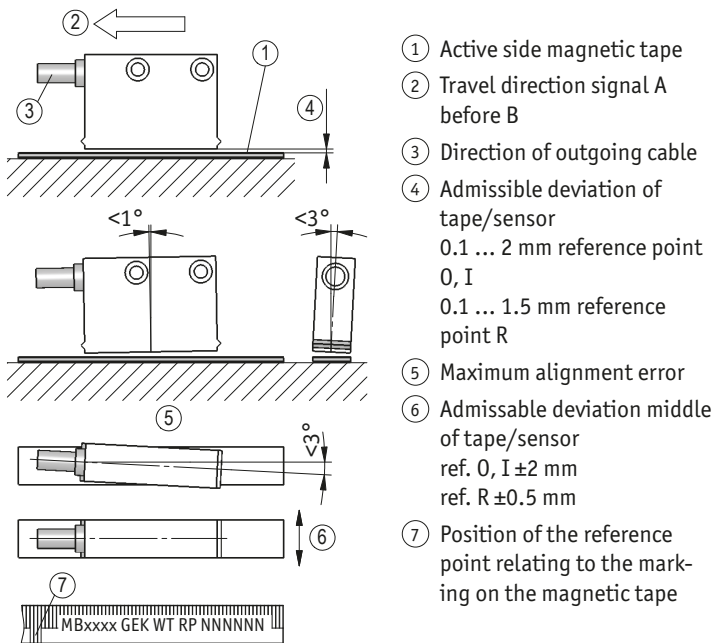

Fig. 6: Definition of the counting direction with magnetic tape and assemblage sensor / magnetic tape, gap measure, tolerances
- ▶ Take care that the magnetic sensor is aligned correctly in order to ensure optimum sensing (see Fig. 6).